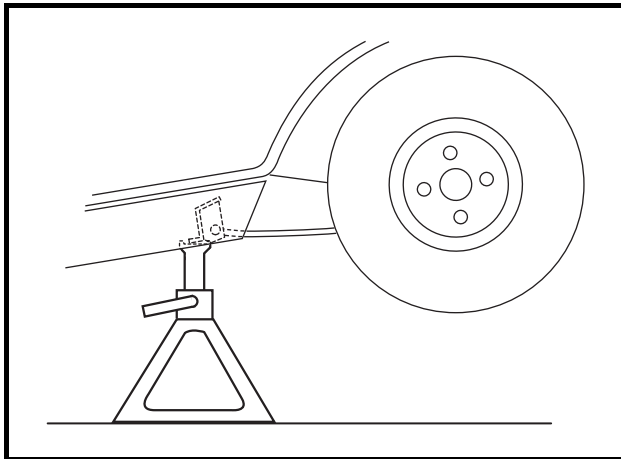

Figure 16-6 Vehicle Supported on Jack Stands
3. Place a floor jack under the transaxle and raise the rear of the vehicle. Position jack stands under the frame crossmember between the spring mount and the side stringer, just forward of each rear wheel. Lower the vehicle to let the jack stands support the vehicle (**Figure 16-6, Page 16-5**). See **WARNING “Lift only one end of the vehicle...”** in **General Warning, Section 10, Page 10-1.**